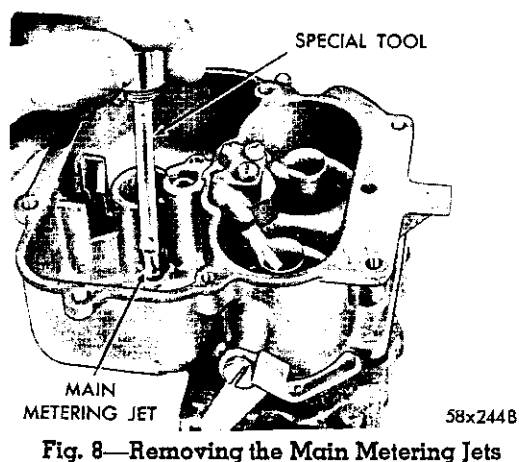

Fig. 8—Removing the Main Metering Jets
(9) Remove the main metering jets and gaskets, as shown in Figure 8.
(6) Install the main metering jets and gaskets. Tighten securely. (Fig. 8).